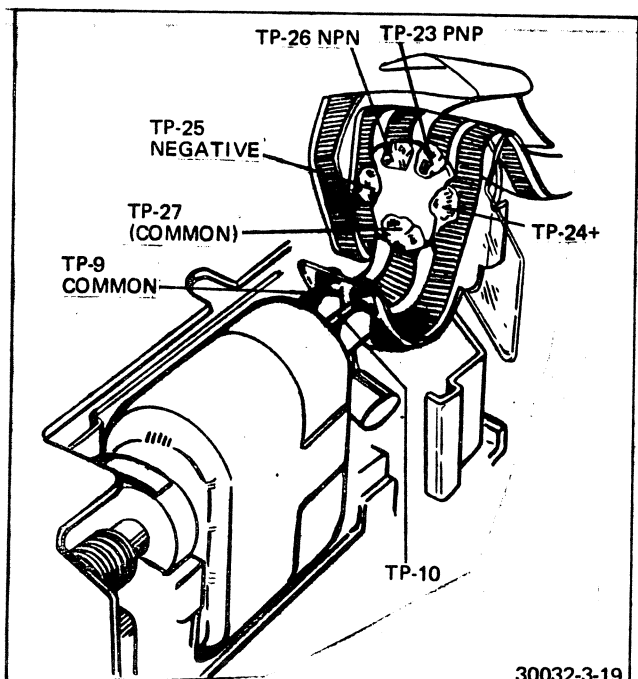

FIGURE 3-19 MCC TO MOTOR CONNECTIONS
8. If the MCC check (step 6) produced no results, check the motor individually. Connect a jumper wire between TP-25 and TP-27. This should cause the motor to run. If it does run, it indicates that the fault is elsewhere. Examine the flex circuit connections between the MCC and the motor (Figure 3-19). If in doubt, resolder the connections. If this does not solve the problem, perform a discrete check of the MCC.